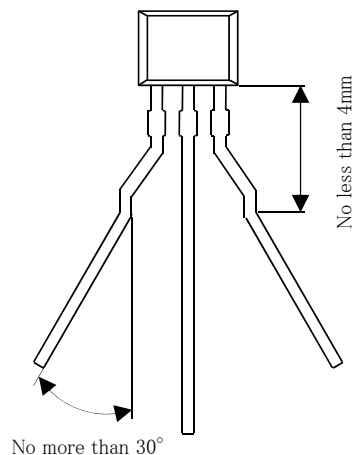

Fig.1 Bending of Leads toward Either Side.
- (1) Prepare a jig to prevent stresses to electrode lead or two pair of needle-nose pliers. Pinch a lead between the bending point and the body with one pair of pliers. Next, with the other pair of pliers, pinch the remaining part of lead and bend it.
- (2) To make a lead bending sideways as shown in Fig.1, bend at a point on the thin portion or at a point more than 4mm down from the body. The bending angle should be less than 30° .